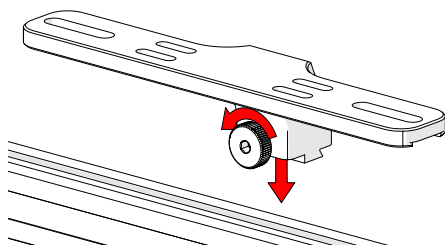

Fig. 147 - Loosen knob and mount to dovetail groove
1. Loosen the knob and align dovetail nut with the dovetail groove (*Fig. 147*).